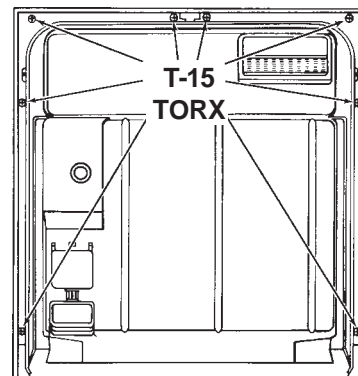

Fig. 1-22
3. Open the dishwasher door and remove the eight (8) T-15 Torx screws securing the inner door panel from the door frame. (Fig. 1-22)
4. Remove the timer cover by releasing the two (2) retaining tabs at each end from the door frame.